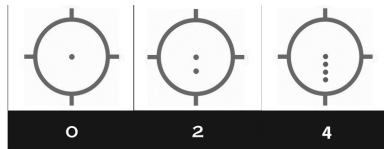

Fig. 1 EXPS3 reticle options
The EXPS3 is offered with one of the following (3) reticle options (see fig. 1):
- 2- 68 minute ring with vertical and horizontal stadia and (2) 1 MOA aiming dots
- 4- 60 minute ring with vertical and horizontal stadia and (4) 1 MOA aiming dots